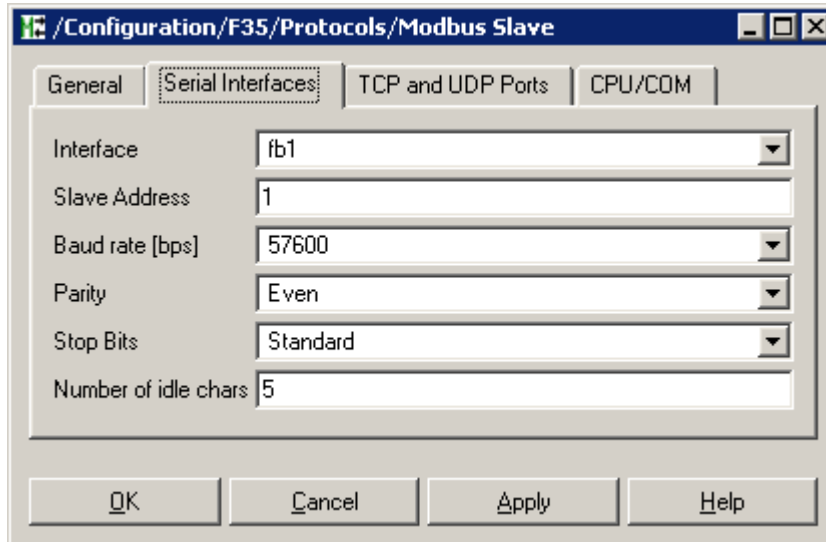

Figure 38: Tab „Serial Interfaces“
- ❑ Enter the parameters displayed in Figure 38.